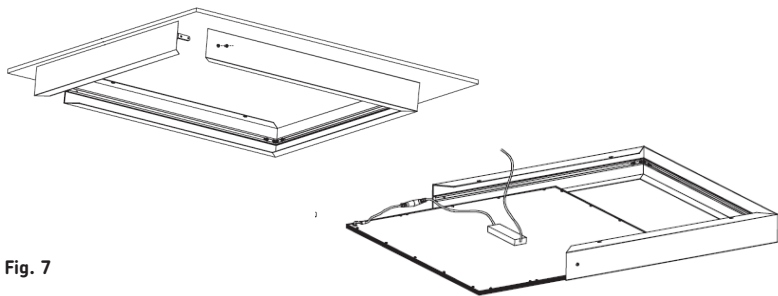

Fig. 7
- Remove one side of the frame and insert the panel (see Fig. 7)